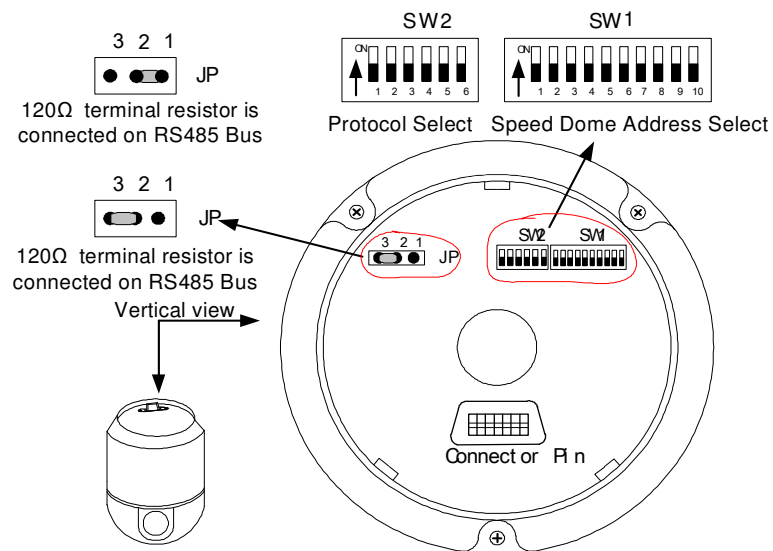

Figure 2
As shown in Figure 2, SW1 is used to set address of the dome camera from 1 – 1023. The coding switches from DIP-10 to DIP-1 are equivalent to a 10-bit binary digital. DIP-10 is MSB while DIP-1 is LSB. The state “ON” of each bit means 1 while “OFF” means 0. Following table shows states of coding switches of some addresses.
**3. Setup of the Protocol and the Default Baud Rate.** As shown in Figure 2, SW2 is used to set the protocol of communication and the baud rate used by the dome camera. DIP-4 to DIP-1 of SW2 is used to select protocols and 16 different protocols can be selected in maximum. Following table shows states of coding switches of protocols selected by the dome camera.
- 4. Setup of the Baud Rate of Communication.** As shown in Figure 2, SW2 is used to set the protocol of communication and the baud rate used by the dome camera. DIP-6 and DIP-5 of SW2 are used to select the baud rate of communication and 4 different baud rates can be selected in maximum. If the controller adopts non-standard baud rate, you can adjust it to be identical with that of the main machine as per the following table.
As shown in Figure 2, JP1 is the select switch of the 120  $\Omega$  terminal resistor on the bus RS485, on which only one terminal resistor of the dome camera at the farthest end can be connected, while the terminal resistors of other devices should be opened.